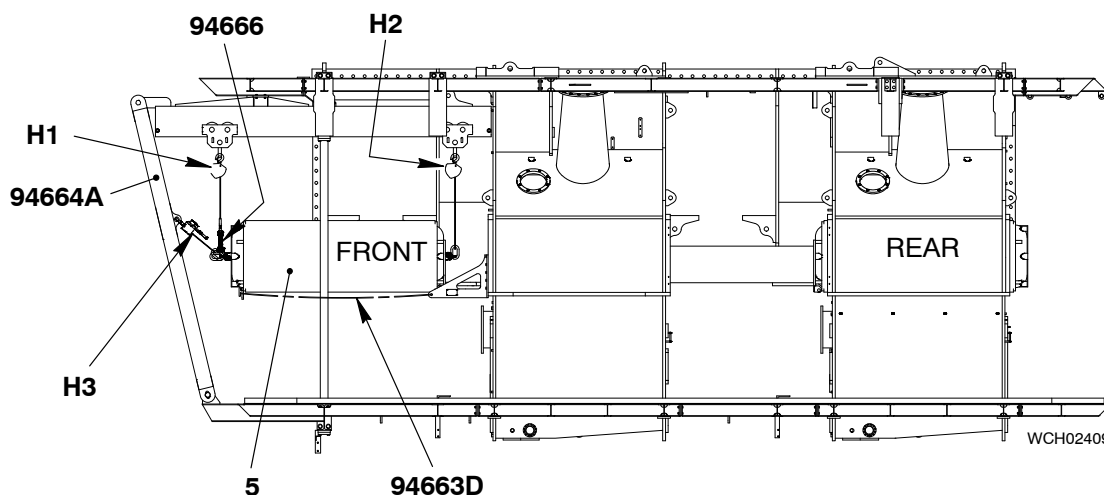

Fig. 5
- 13) Attach the manual ratchet (H3, Fig. 5) to the dismantling pipe (94664A) and to the center swivel lug on the front of the SAC (5).
- 16) Operate the manual ratchet (H3) until the rear of the SAC (5) is on the two supports (94663A and 94663B).